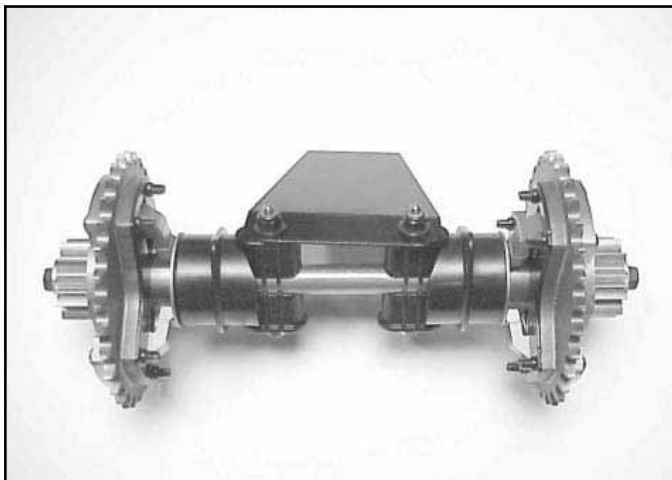

Fig 205
16. Assembly can now go back into housing (Fig. 205).